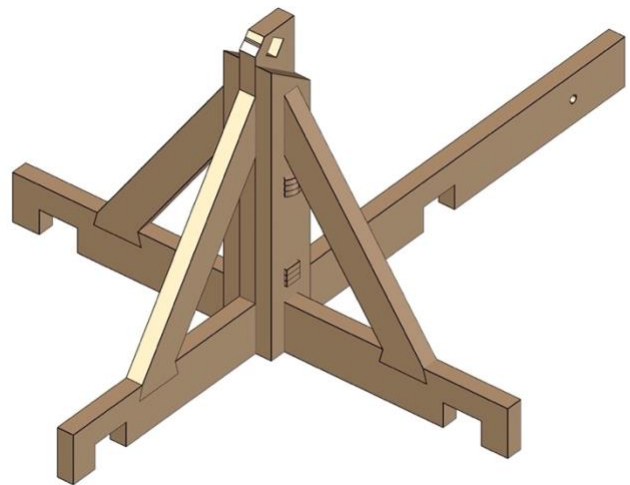

Fig. 44
- *Fig. 44* shows the completed process.